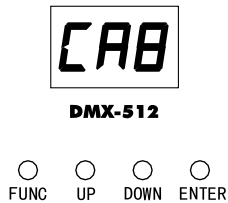

Fig.10
- Press the button FUNC so many times until the display shows [CA8] (fig.10).